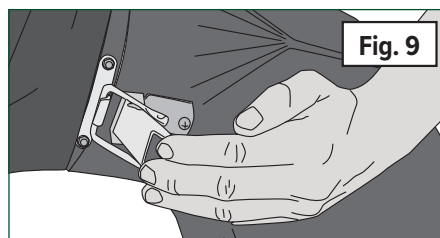

Fig. 9
3. **(Fig. 9)** Make a small cut in the reinforcing rib using a utility knife or cutting pliers, then twist to break it off.
2. **(Fig. 9)** Connect the collector bag collar onto the top of the exit chute using the two quick-connect latches.